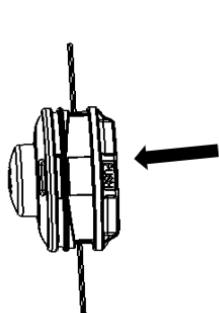

Fig.21
1. Press the "PUSH" button on the trimmer head to pull the release tabs inward to unlock them from the top cover, then pull out the spool retainer, fold the nylon, hang it and rotate it into the spool retainer (Fig. 21 and 22).